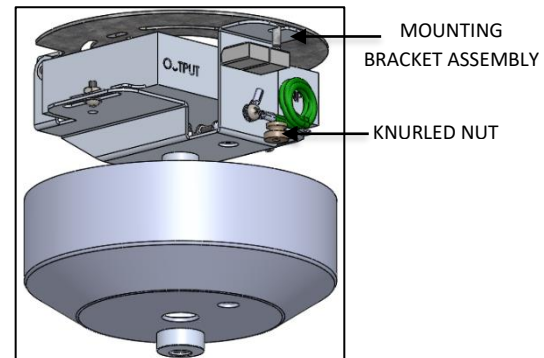

FIG. 9 – MOUNTING BRACKET ASSEMBLY
4. Tighten KNURLED NUT to secure DRIVER MOUNTING BRACKET to MOUNTING PLATE. As shown below in FIG. 9.